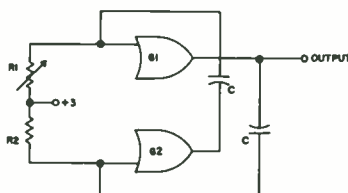
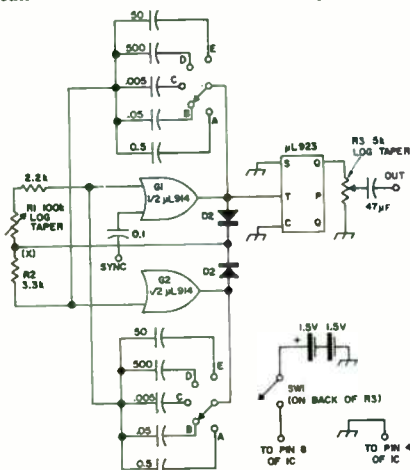

Fig. 1. Simple astable multivibrator circuits.
Fig. 2. Complete square wave generator. Bandwidth-limiting capacitors are 10% or better tolerance. Resistors are $\frac{1}{4}$ watt.
The circuit which generates the basic square wave form is shown in Fig. 1. This is called an astable multivibrator. The gates G_1 and G_2 are from a Fairchild μL 914 integrated circuit. It's a dual two-input gate and should be familiar to many 73 readers.
The simple astable multivibrator of Fig. 1 would work nicely if it were not for one big shortcoming. It may cease oscillating when switching frequency ranges or it may fail to start up when turned on. This happens when both gates saturate at the same time. In normal operation, G_1 and G_2 conduct on alternate cycles; that is when G_1 conducts, G_2 is cut off. This process is insured by the capacitors which drive the
The seemingly insurmountable problem was easily overcome by using a couple of diodes. Fig. 2 shows the circuit, known as a self-starting circuit. By referring to Fig. 1 and 6 you'll be able to see how this circuit works. The two diodes are connected to each output and to the junction marked (X). The +3 V for R_1 and R_2 is now supplied through D_1 and D_2 from the collector of either gate. Remember that when a gate is cut off the collector goes positive and +3 V appears at junction (X). The circuit will operate properly as long as at least one gate is cut off. Now if both gates should happen to saturate at the same time when switching capacitors, the positive voltage at (X) will disappear, tending to cut off the gates immediately. In other words, the diodes, which form the OR gate, will not allow the multivibrator to lock in a saturated condition. Proper operation will begin when the next capacitor is switched in. We now have